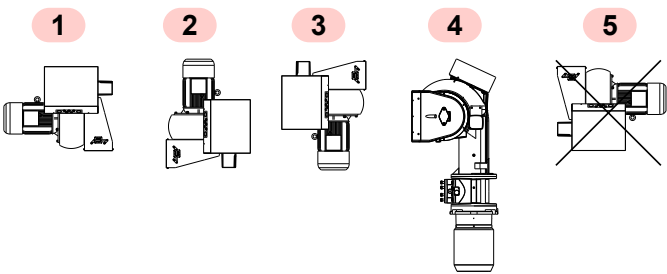

Fig. 11
- The burner is set up to operate only in positions 1, 2, 3 and 4 (Fig. 11).